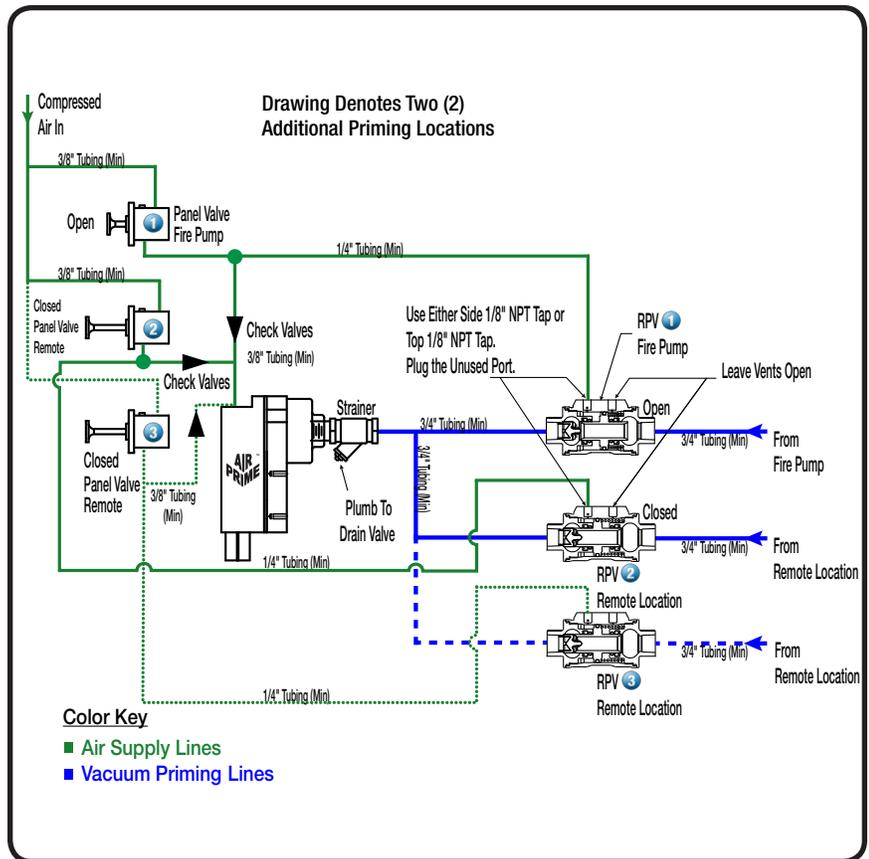

Figure 3 Additional Location Added
3. Remove the 3/4" line attached to the WYE strainer at the *AirPrime* unit's inlet. Install an additional 3/4" TEE in its place and plumb all the RPVs as shown in the Dashed BLUE lines of **Figure 3**. Use 3/4" inside diameter non-collapsible hose for these lines. Note that flow direction arrow cast on RPVs must point toward the *AirPrime* unit. Also note the RPVs must also be mounted higher than the highest priming point in the suction plumbing.
4. Remove the existing airline and tubing fitting located on the top of the *AirPrime* unit. Add an additional TEE to the top of the primer and plumb the push-button, check valve, RPV and airlines as shown in Dotted GREEN lines in **Figure 3**. Be sure air flow direction, as marked on check valves, is correct. Use a minimum of 3/8" OD tubing from the air supply to the push-button and from the push-button to the *AirPrime* unit. Use a minimum of 1/4" OD tubing for the air actuation lines to the RPV.
2. Refer to schematic in **Figure 3** on Page 1 for air and suction plumbing.